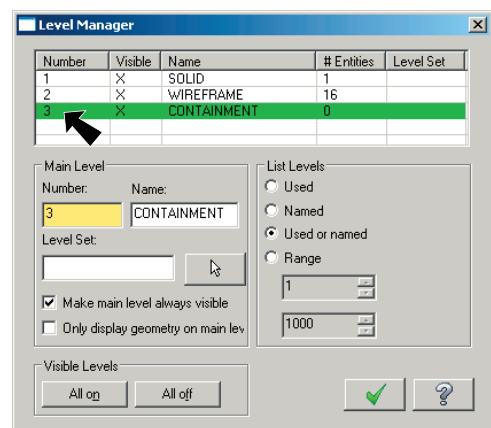

Fig. 34
Step 2. Click the **3** in the Number column to make **Level 3 CONTAINMENT** active, **Fig. 34**. Click OK  when done.